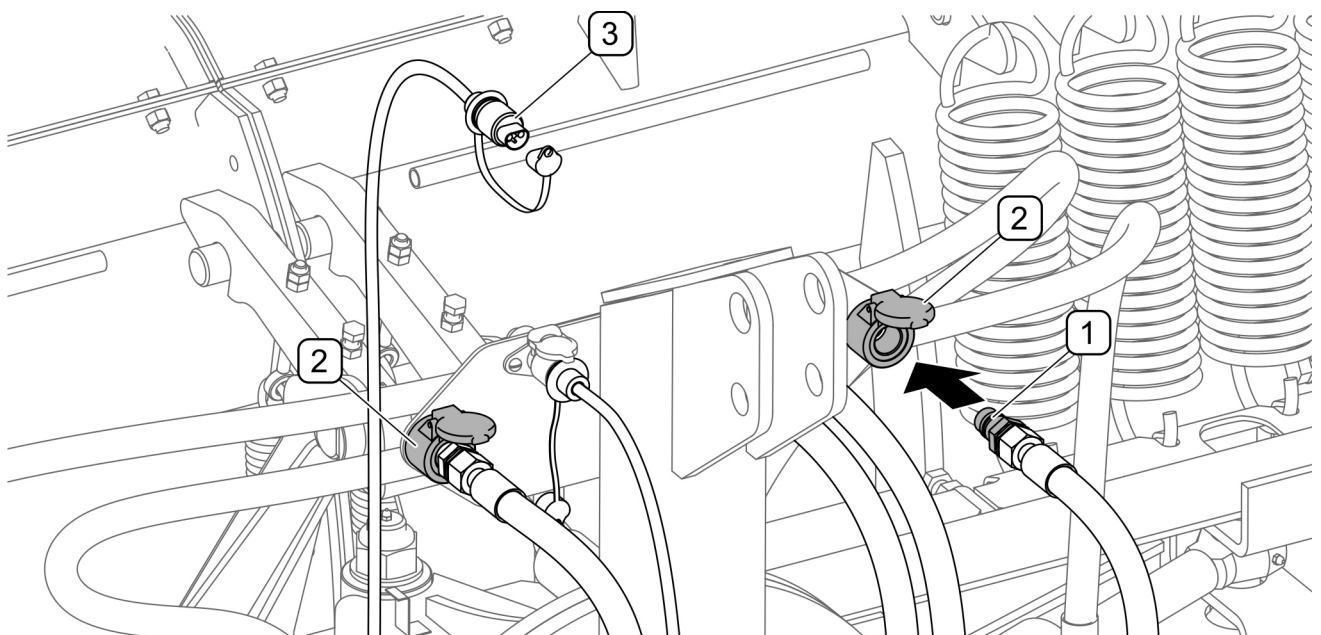

FIGURE 4.14 Protecting hydraulic and electrical system plugs.
- Protect hydraulic system plugs (1) against soiling by inserting them into sockets (2), secure clearance lamps electrical cable plug (3) with a stopper (FIGURE 4.14).